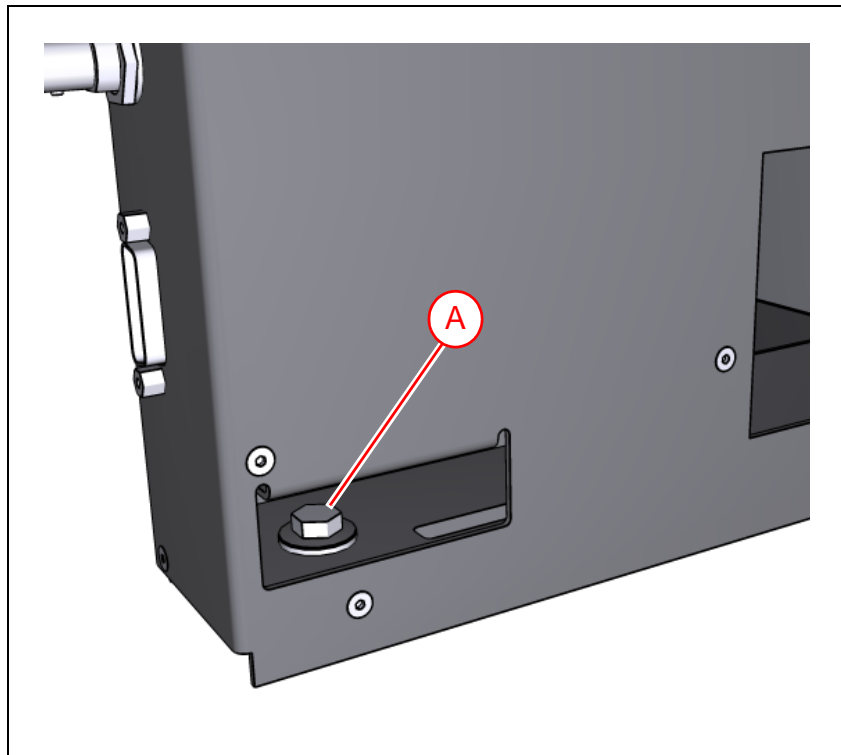

Figure 9-13. HC2 rear bolt.
1. Loosen the rear bolt, see ('A' in Figure 9-13).
4. When satisfied with the Y position, fasten screws ('A') and the rear bolt (see Figure 9-13).